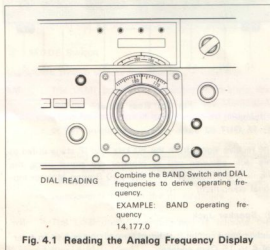

Fig. 4.1 Reading the Analog Frequency Display
4.4 READING THE OPERATING FREQUENCY (FIG. 4-1)